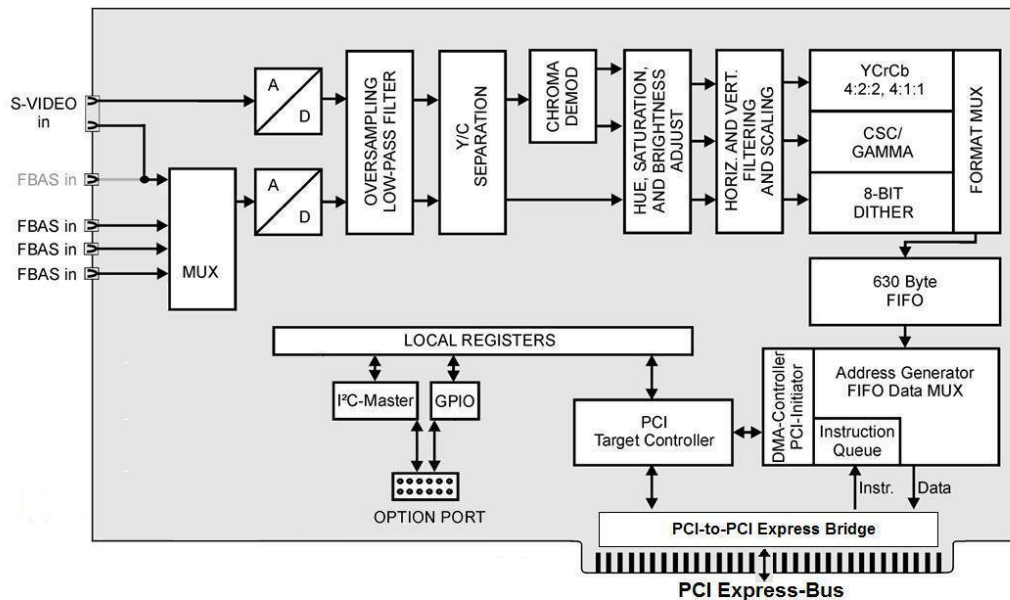

Figure 37: Block diagram VD-012
Figure 37 shows the block diagram of the pciGrabber-4x4. The composite input signal is connected to a 9:1-video multiplexer, which is controlled via the PCI-Bus. The following A/D-converter digitizes this signal. All image sources can be used, which provide a color video signal corresponding to the CCIR- standard „PAL (B,D,G,H,I)“, „NTSC (M)“.